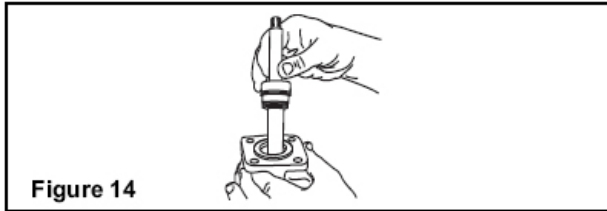

Figure 14
1. Place the Shaft Assembly into the Motor Body bearing bore with threaded end up (See Figure 14).